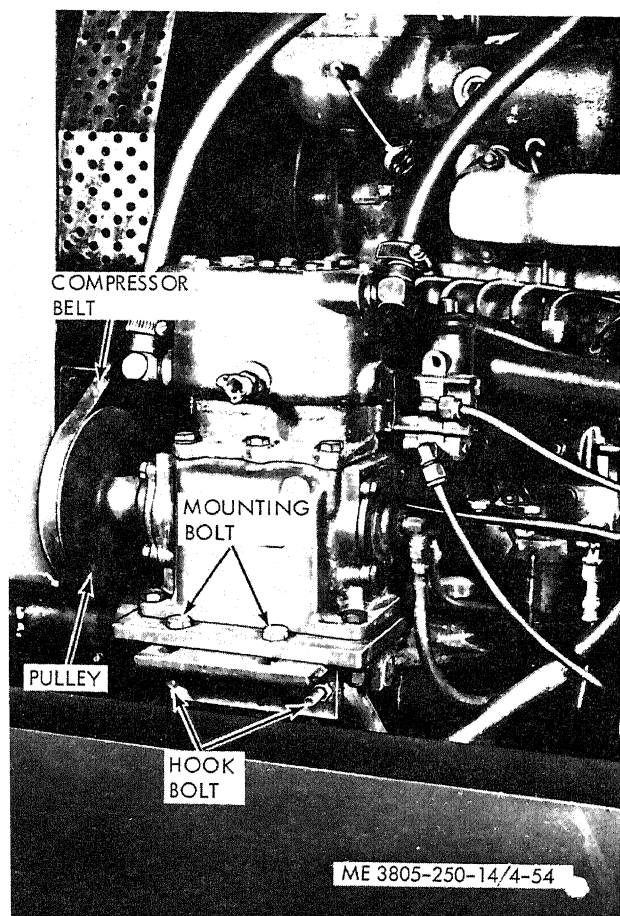

Figure 4-54. Air compressor belt.
(1) Loosen the two air compressor mounting bolts (fig. 4-54).
(2) Loosen the nuts on the hook bolts and slide the compressor towards the engine.
(3) Remove the belt. Slip the new belt over the fan and onto the fan and compressor pulleys.
(4) Adjust the belt (subpara. c).